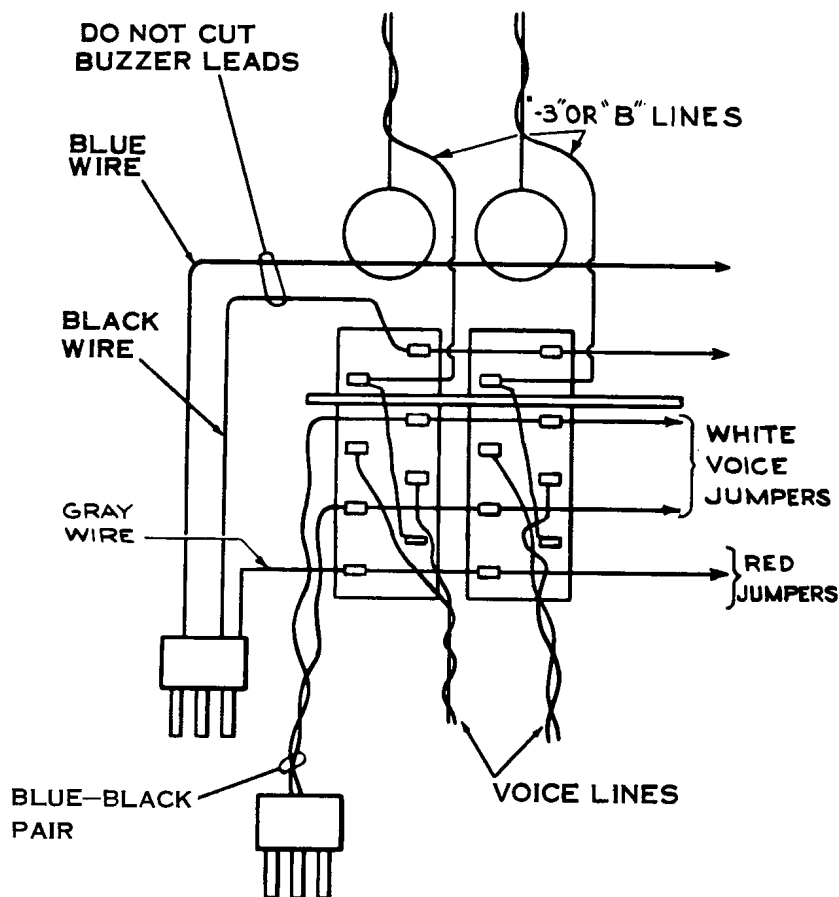

Figure 9 - Last Selector Switch of Annunciator Model
- (a) Do not cut the buzzer circuit (blue and black wires) from the last numbered selector key (see Figure 9).
- (b) Cut the looped white jumper wires (voice commons) connecting the selector keys between the last "S" and the first "M" circuit master station where combined. If all master stations are "S" circuit, cut the twisted blue, blue-black pair of wires from the last selector key (see Figure 9).
9.10 This unit is used in conjunction with speaker stations where the speaker is inaccessible or where there is a high noise level. A switchhook is provided on a plate which can be mounted in any standard flush or surface mounted switch box (see Figure 9 in Section C70.911.03). Double gang switch box is required for flush mounting. Surface mounting box is furnished with unit.